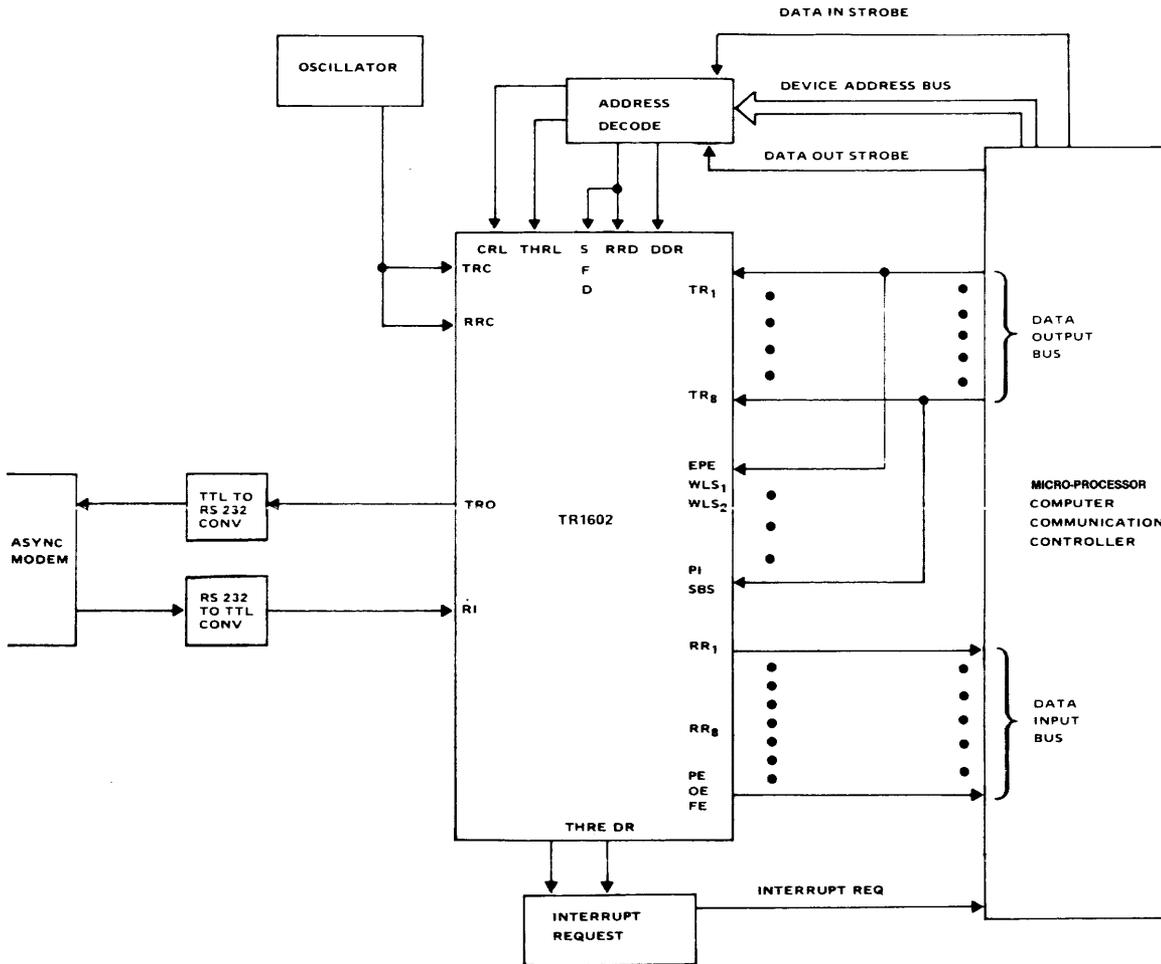

Figure 12. Typical Minicomputer Interface
The TR1602 greatly reduces this problem by performing the character assembly/disassembly functions in external hardware as shown in a typical configuration in Figure 12. This solution not only reduces the interrupt rate by a factor of up to 176, but
Since the TR1602 inputs and outputs are TTL compatible, the TR1602 interfaces directly with virtually all micro-computer I/O busses. In Figure 12, the micro-computer Data Output Bus is connected to the Transmitter Register (TR) inputs and the Control Register inputs. When the micro-computer has a character to transmit, the character is placed on the Data Output bus and the address of the appropriate TR1602 is placed on the Device Address Bus. The Address Decode circuit will output a THRL load pulse under control of the Data Out Strobe from the micro-computer. When the control register should be changed, a new 5 bit control word is placed on the Data Output Bus and along with an appropriate device address which is converted to a CRL load pulse in the Address Decode circuits, again under control of the Data Out Strobe. A THRE Pulse to the Interrupt Request circuit will notify the micro-computer when a new character may be provided to the TR1602 for transmission.
The TR1602 Transmitter Output (TRO) and Receiver Input (RI) must generally be converted to RS232 levels if they interface with a modem as shown in Figure 12. RS232 is a standard that has been established by the Electronic Industries Association for the interface between data terminals and data communications equipment. RS232-C defines a space as greater than 3 volts and a mark as less than negative 3 volts at the Receiver input. A transmitter output of between 5 and 15 volts is a space while a
It should be noted that the typical application illustrated in Figure 12 is only one of many and it does not take advantage of many of the TR1602 features. For example, the Status Flags could be tied to a separate interrupt request bus or the TRE output could be used to implement half-duplex operation.